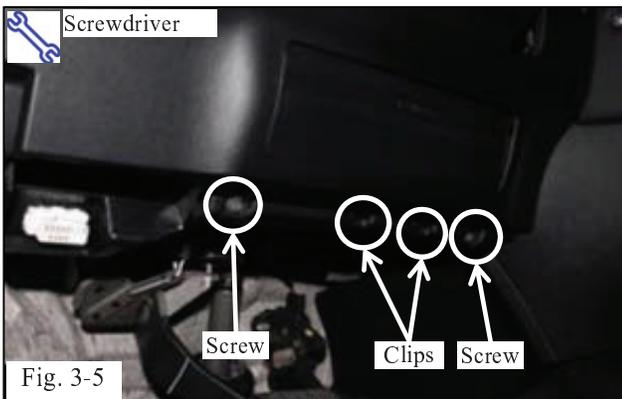

Fig. 3-5
- (1) Remove the two screws (Fig. 3-5).
- (2) Push in on the two clips to disengage them (Fig. 3-5).